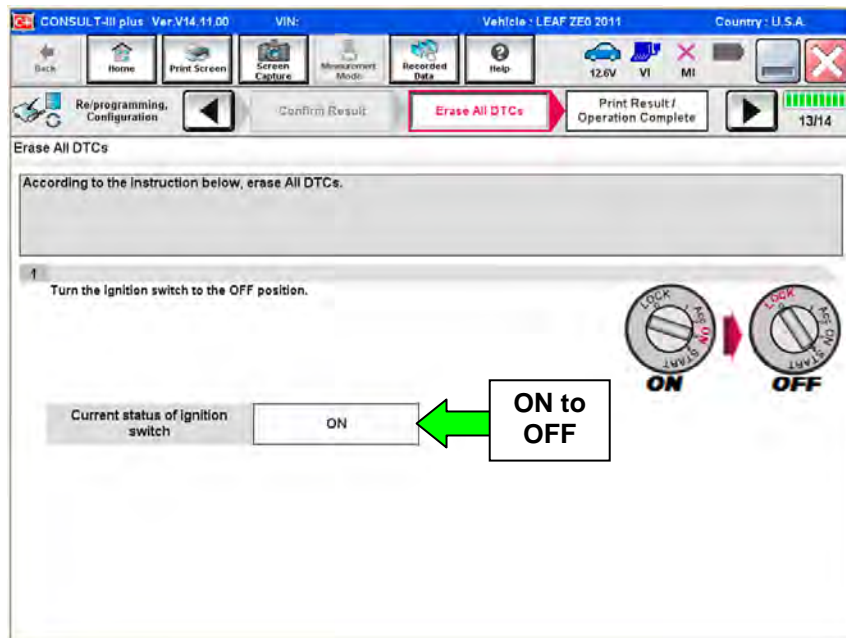

Figure 18
- The screen in Figure 18 will read **OFF** after pressing the power switch once.